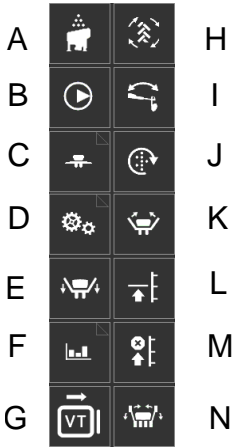

Figure 12.4
Settings are accessed via the (E) button on the home screen “Figure 12.4 “ (this may vary slightly between machine models). Use the navigation buttons for area-